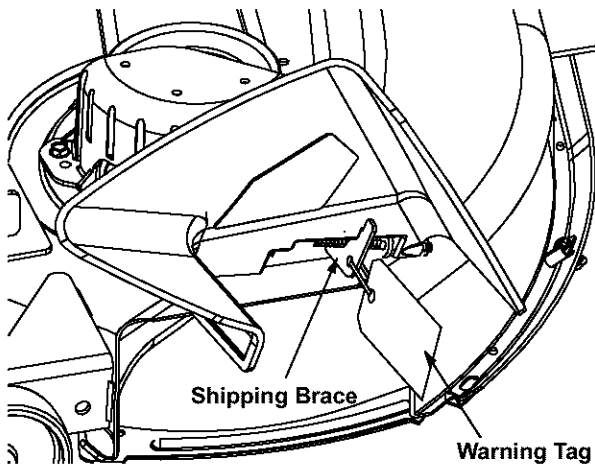

Figure 5
- Locate the shipping brace and accompanying warning tag on the right side of the mower, between the discharge chute and the cutting deck. See Figure 5.